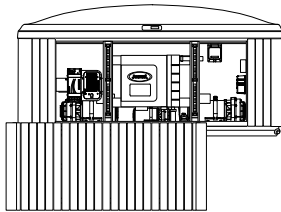

Figure 13.2c
3. Slowly and gently tilt the panel forward and then lift up to remove. This will expose the equipment bay for easy access to the components, Figures 13.2c and 13.2d. Remove the foam boards covering the equipment bay (**J445 only**). Place the panel and foam boards in a safe location to prevent from damaging them.